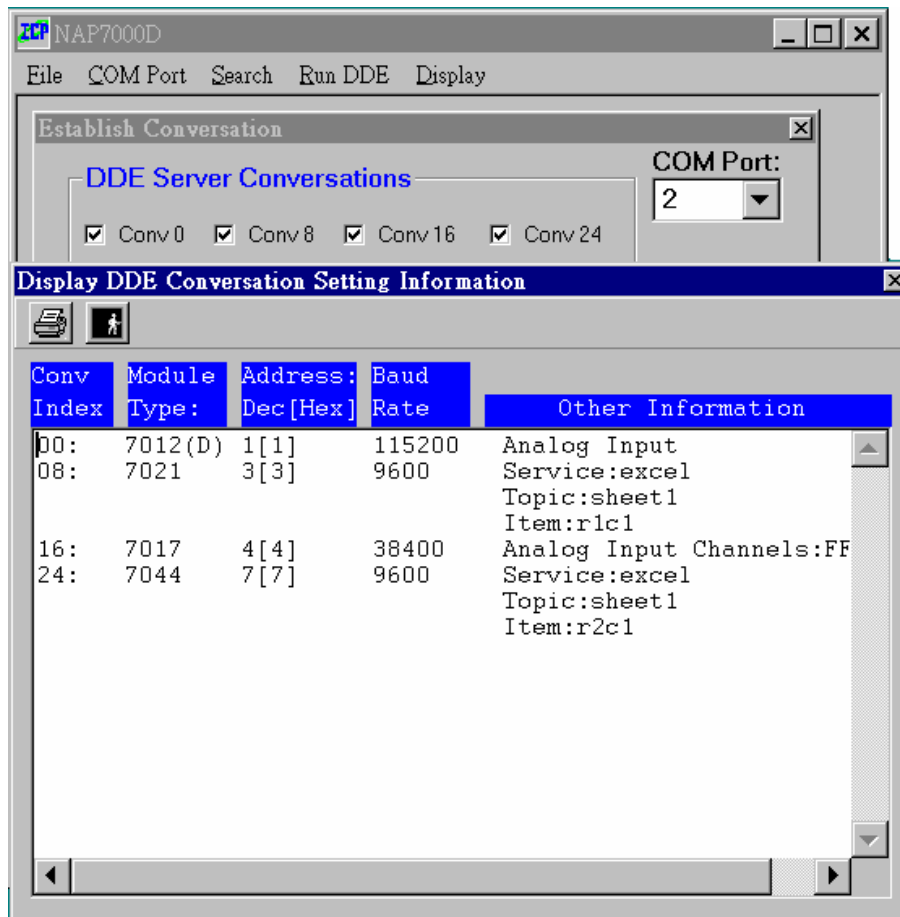

Fig 3-17.
Step 1: Setting the configurations for these four CB-7000 modules as Fig 3-17 shown. Please adjusting the baud rate and module address according to your CB-7000 module configuration.